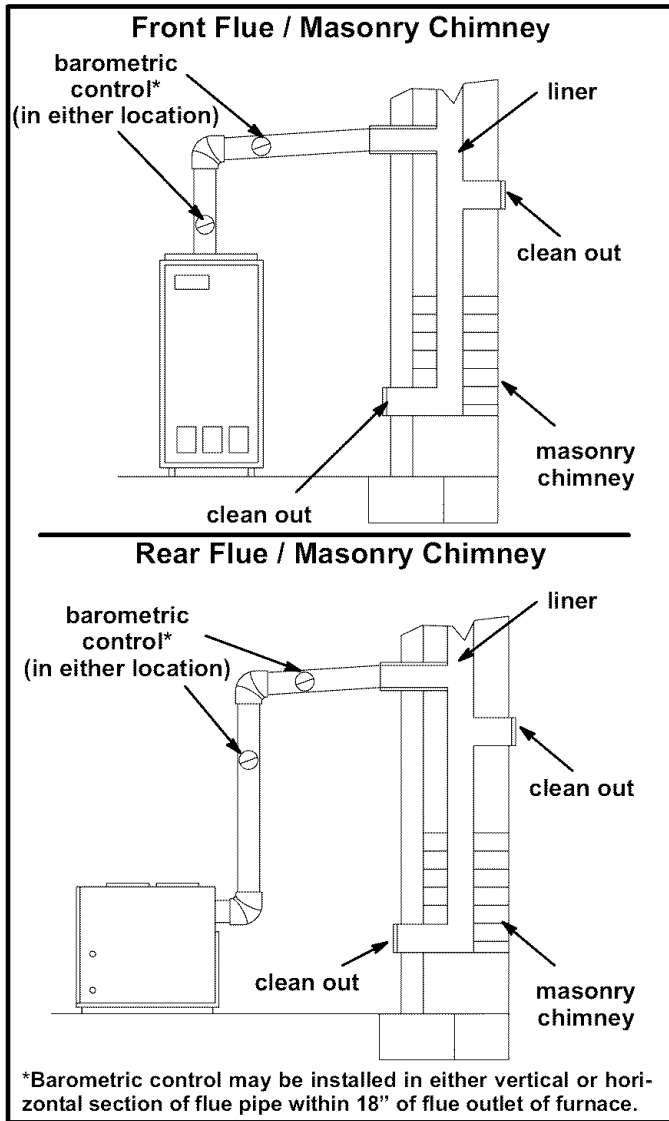

Figure 6
- 9 - The vent pipe should slope upward toward the chimney on horizontal run at least 1/4 inch (6 mm) to the foot (0.3 m) and should be supported by something other than the furnace, such as isolation hangers. See figure 6.